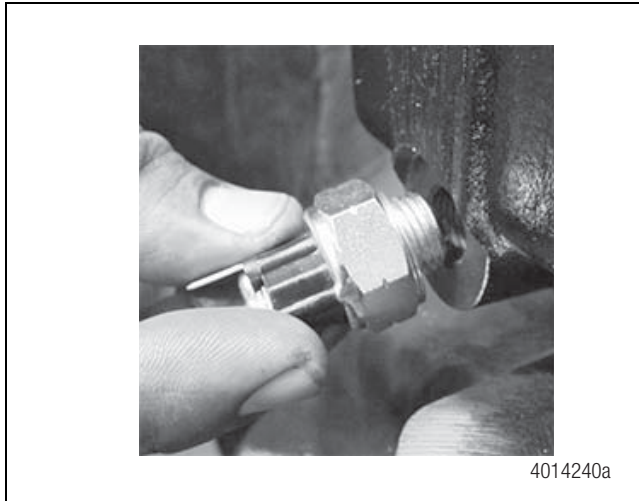

Figure 6.50
12. Install the switch using a new copper washer. Torque to specification. Figure 6.50.